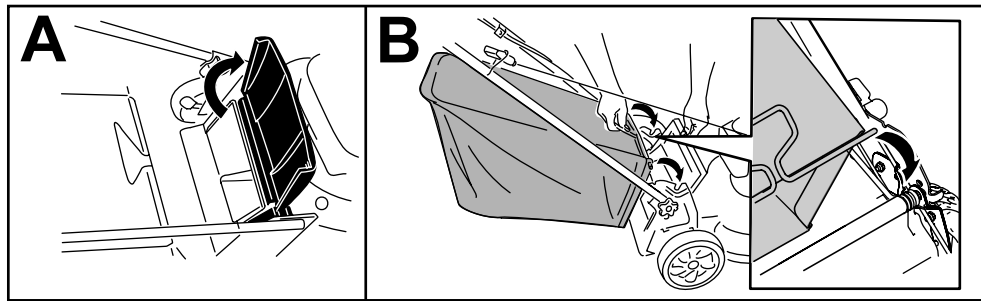

Figure 15
1. Raise and hold up the rear deflector (A of Figure 15).
2. Install the grass bag, ensuring that the pins on the bag rest in the notches on the handle (B of Figure 15).